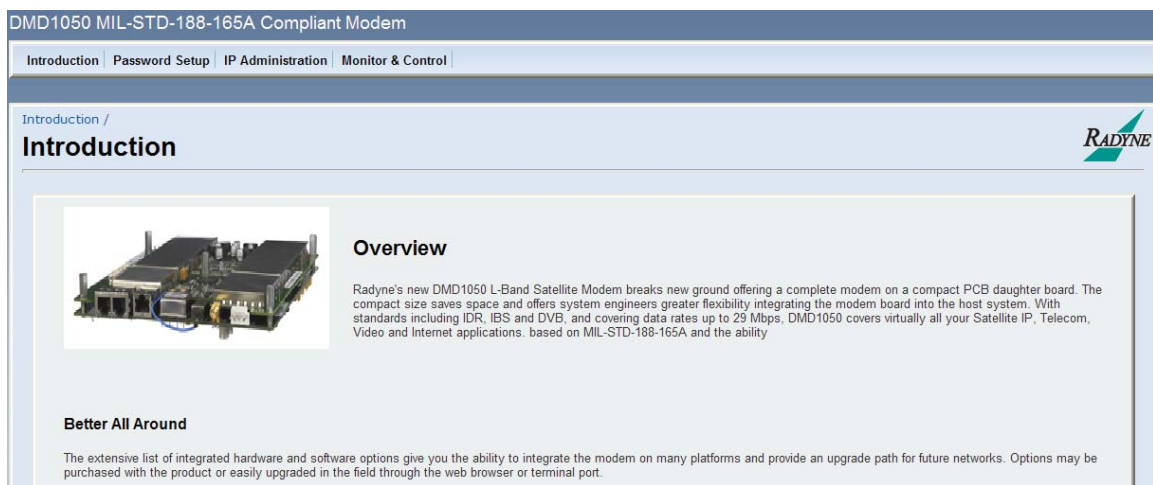

Figure D-3. Web Browser - Modem Introduction Page
- The Web Browser should be displayed on your computer screen. The modem index page will be displayed per Figure D-3. No special access is required. General information on the modem, features, capabilities, and available options are listed. Complete technical specifications and product options are also available in a PDF format.